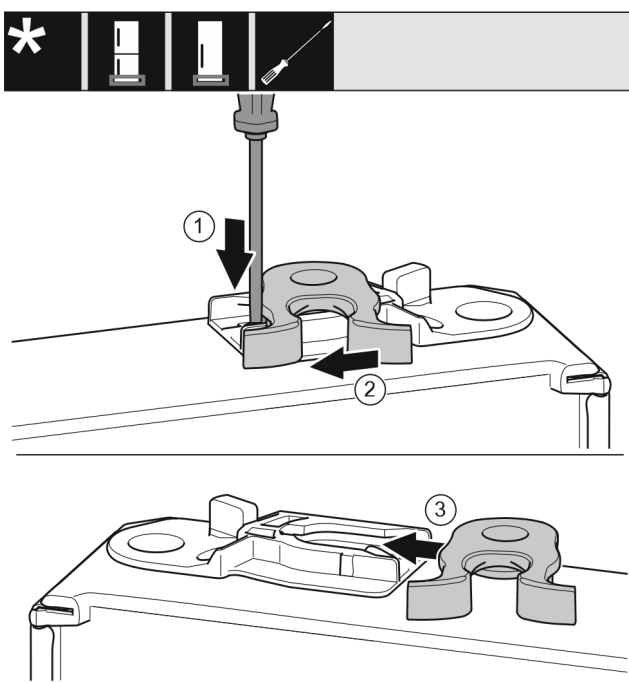

Fig. 16
- Push the lug downward with a slotted screwdriver. Fig. 16 (1)
- Pull the door latch out of the guide. Fig. 16 (2)
- Push the door latch into the guide on the other side. Fig. 16 (3)